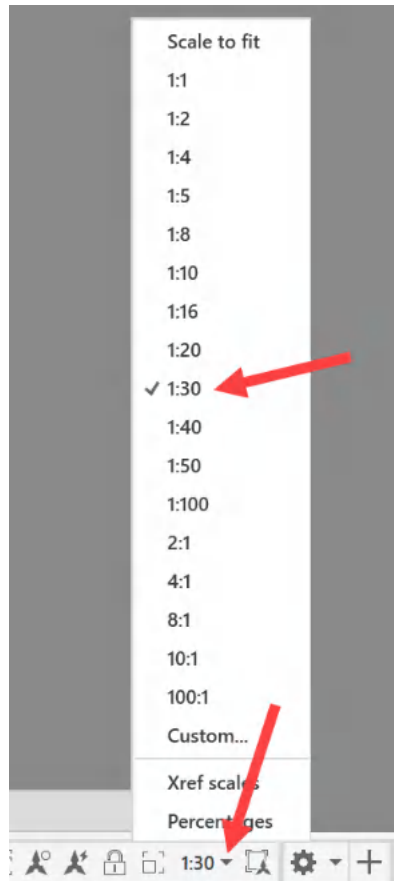

Figure 8.14: The viewport scale list with the flyout arrow and 1:30 scale display arrowed
13. Select the viewport scale menu on the status bar by clicking the flyout arrow next to the scale value. The status bar scale will not display as a recognized scale value as you have just performed a manual zoom in the new viewport. Select **1:30** from the scale list displayed, as shown in *Figure 8.14*. The view in the new viewport will adjust to the selected scale, and **1:30** will now be displayed in the status bar.